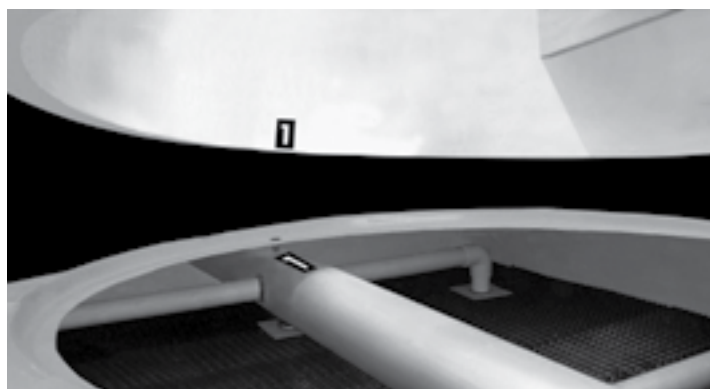

Figure A-67: Fan Duct alignment for a Modular Tower
E. Identify each fan duct, they are labeled with a number on the inside of the lower edge. For a correct installation, this number must match the number on the distribution manifold of the corresponding body section. Now place fan duct 1 on the correspondent receiving flange on top of the Tower; make sure the bolt holes and the marks inside the fan duct and the receiving flange are aligned (see Figure A-67). Secure it with the stainless steel nut and bolt sets supplied by REYMSA.